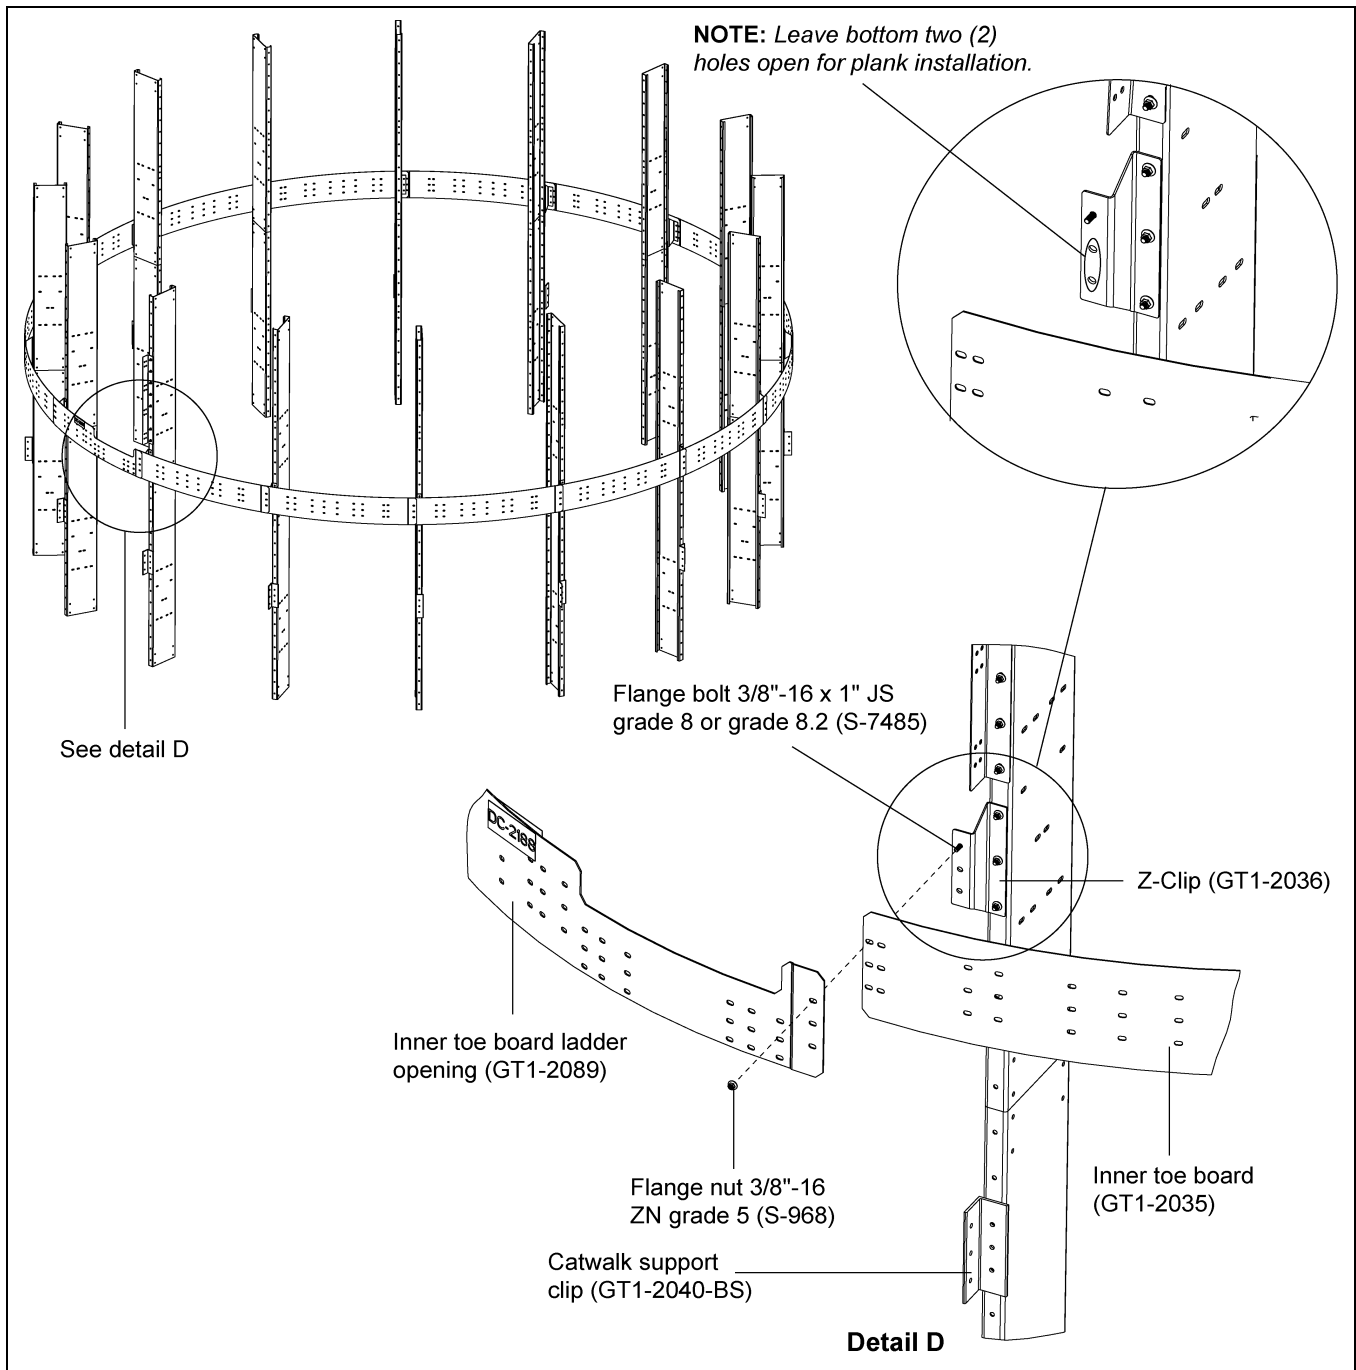
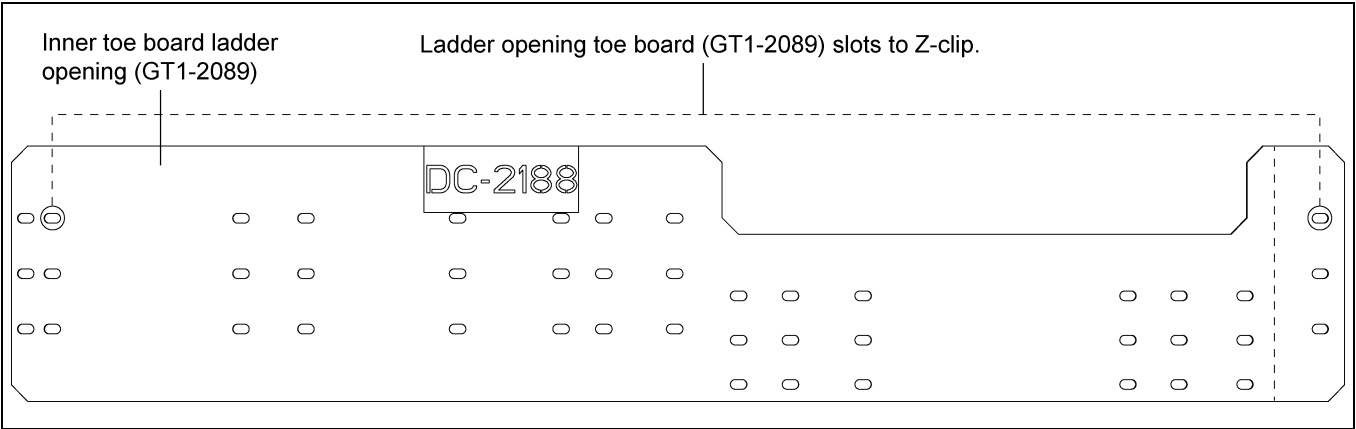

Figure 4G
Figure 4H 24' Ladder Opening Toe Board (GT1-2089)
1. Install the inner toe board (GT1-2035) to the Z-clips (GT1-2036). All toe boards should be installed between the Z-clips using 3/8"-16 x 1" JS grade 8 or grade 8.2 bolts (S-7485) and 3/8"-16 ZN grade 5 nuts (S-968). *(See Figure 4G.)*
2. At the ladder location, install the ladder opening toe board (GT1-2089) to Z-clips using 3/8"-16 x 1" JS grade 8 or grade 8.2 bolts (S-7485) and 3/8"-16 ZN grade 5 nuts (S-968) in such a way that toe board opening falls on the ladder path. *(See Figure 4G below and Figure 4H on Page 18.)*